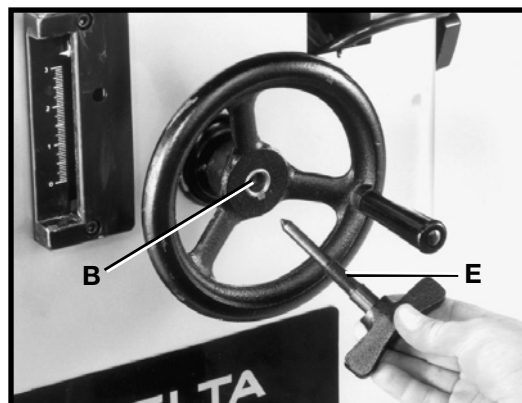

Fig. 3
3. Thread the lock knob (E) Fig. 3 into the spindle shaft (B).